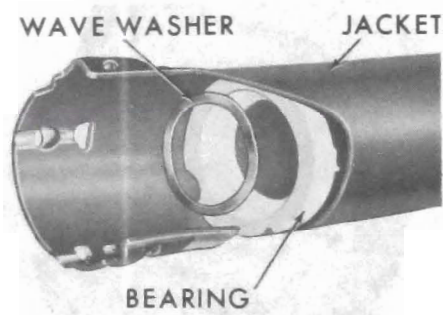

Figure 90-122 Removing Lower Bowl Bearing
7. (Automatic Transmission Only) Remove wave washer and lower bowl bearing from top of jacket. See Figure 90-122.
7. Install lower bowl bearing in jacket and place wave washer in bowl bearing. See Figure 90-122.